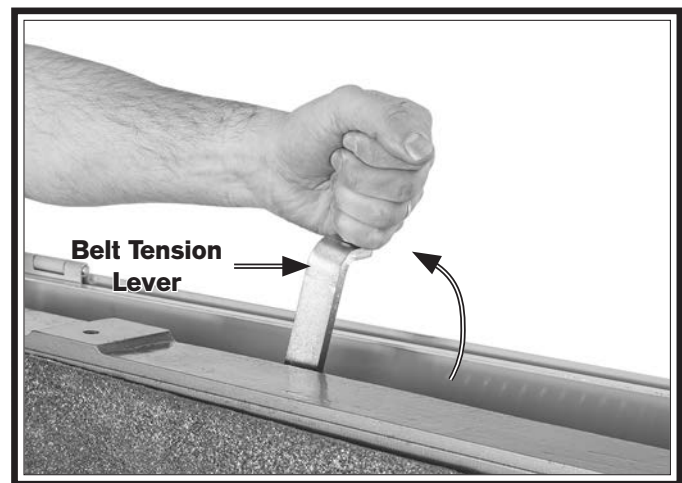

Figure 16. Moving belt tension lever to un-tensioned position.
4. Move belt tension lever up and toward contour drum, as shown in **Figure 16**.